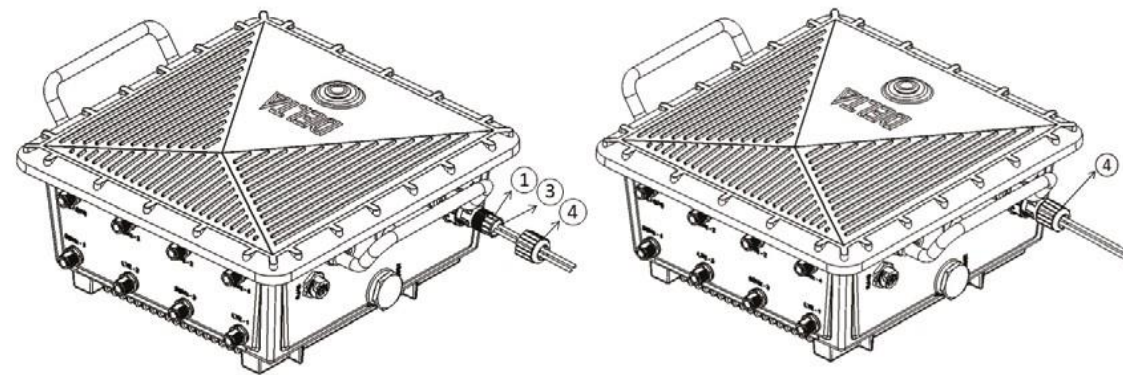

Figure 24: Connecting fiber optic cabling - 2
- b. Tighten the optical gland main body (1) into the device mating connector (optical connector). Make sure that the maximum torque applied does not exceed 2Nm, as shown in Figure 24.